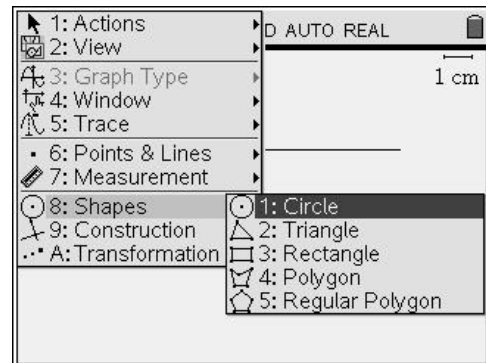

Figure 6
6. Next we want to construct a circle whose radius lies on the line. Press **menu** **8** **1** for Menu, 8:Shapes, 1:Circle. (Figure 6)